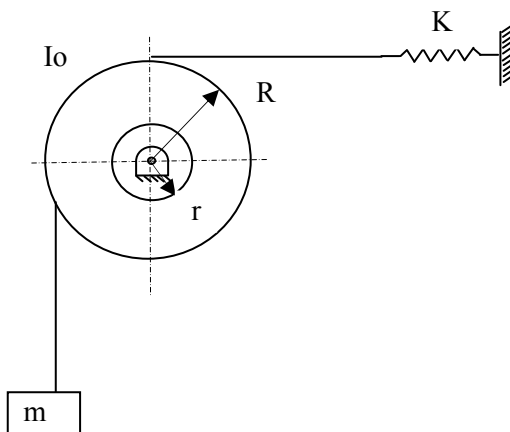

Fig. 1[Q-3(a)]
- Q.3 (a)** Derive the equation of motion & so equation for circular frequency for the single degree of freedom system shown in Fig.1, where  $I_o$  = moment of inertia of pulley,  $R$  = radius of larger pulley,  $r$  = radius of smaller pulley,  $m$  = mass suspended to string,  $K$  = stiffness of the spring. **07**